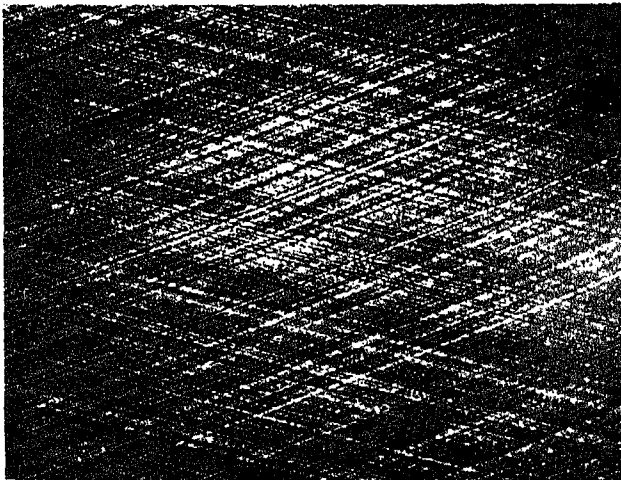

Fig. 1-2-5. Cylinder liner cross-hatch pattern
10. Do not start drill motor. Practice stroke a few times for "feel" with stones expanded loosely in liner and not in actual contact with walls. Down stroke hits stop, but operator must stop stroke at top allowing stones to extend out top of bore  $\frac{1}{2}$  in. [12.7000 mm] to 1 in. [25.4000 mm]. Stroking speed required to produce a  $35^\circ$  to  $45^\circ$  crosshatch is approximately 50 strokes per minute, Fig. 1-2-5.
After pattern is uniform, stop hone; adjust stones to a firm but light pressure. Apply oil and make 4 or 5 full-length strokes and shut drill off while continuing stroke. Double stroke in bottom if necessary to time actual stopping of stone rotation when hone is at top of bore. This preserves cross-hatch pattern, and puts true stone pattern (20/30 rms finish) on cylinder walls, Fig. 1-2-5.